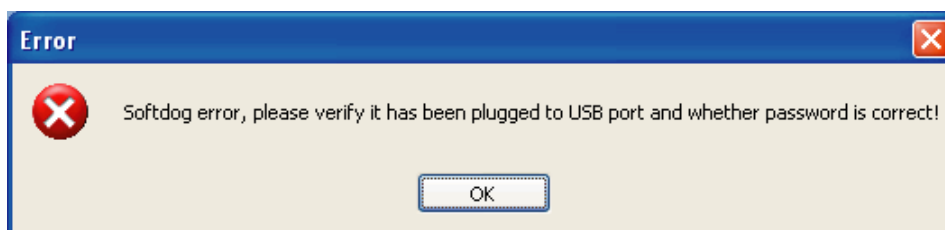

Fig.4-1
- 4) When login on, you must insert the Softdog provided by manufacturer to the computer, otherwise, cannot be login the system and the window as Fig.4-1 ,and the Softdog Error would show as follows.